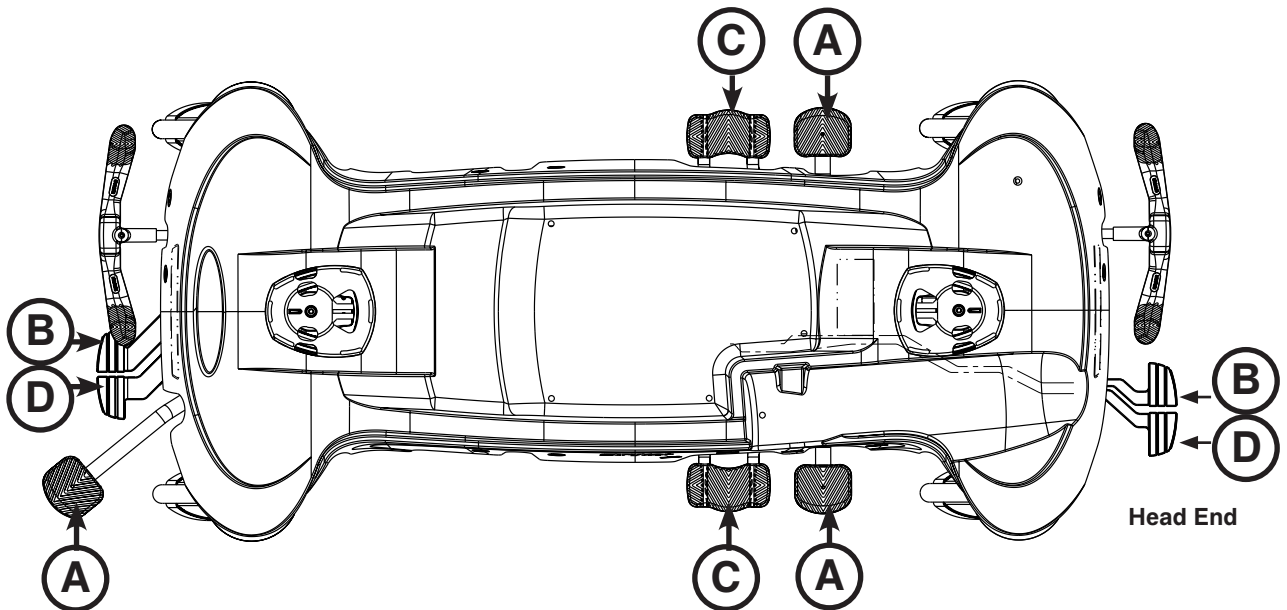

Figure 9: Stretcher Base Controls - Optional Three-Sided Control
To operate the base controls, see Figure 9 to locate which pedals are used for what operation.
To raise the litter height electrically, depress pedal (A) (see Figure 7 on page 22 or Figure 9 on page 23). The litter will begin to raise. Hold the pedal down until the desired litter height is achieved. Release the pedal at any time to stop the litter motion.
For Trendelenburg positioning (head down) (see Figure 9 on page 23):
For reverse Trendelenburg positioning (foot down) (see Figure 9 on page 23):
- Depress pedal (B) at the foot end of the unit or
- Depress the side of pedal (C), located on the patient left or patient right side, closest to the foot end of the unit.
To lower the stretcher from reverse Trendelenburg position, depress pedal (A) once to raise the foot end of the stretcher, and then depress pedal (C) or (D) (see Figure 9 on page 23).